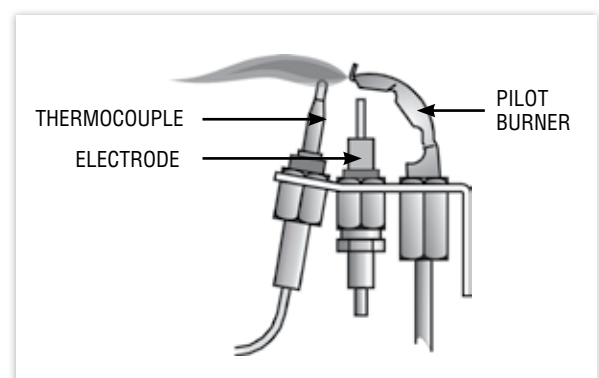

FIGURE 7. ELECTRICAL DOOR ASSEMBLY
- 13.3.7 Ensure that the pilot flame envelops the thermocouple tip, see Figure 7.